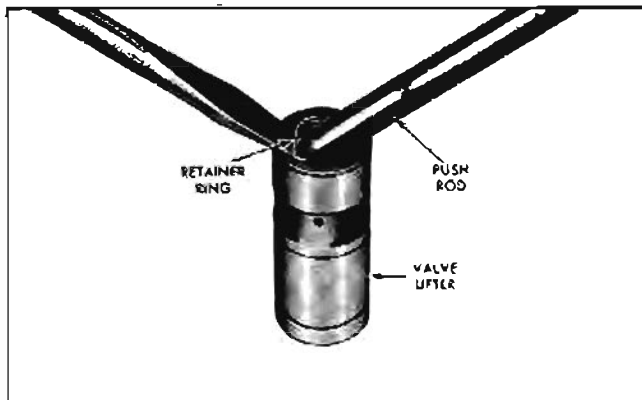

Fig. 6-21 Removing Push Rod Seat Retainer Ring
1. Remove push rod seat retainer ring by holding seat down with push rod while dislodging spring from lifter body with a pointed tool (Fig. 6-21). **NOTE:** It may be necessary to unseat lifter ball, using plunger unloader J-5097, before plunger can be pushed down.